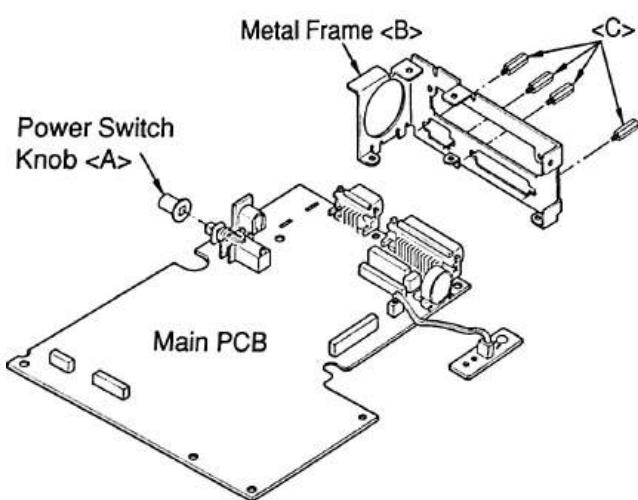

Figure 15
(9) Detach the power switch knob <A> and remove the metal frame  from the main PCB by loosening 4 screws <C> as shown in Figure 15.